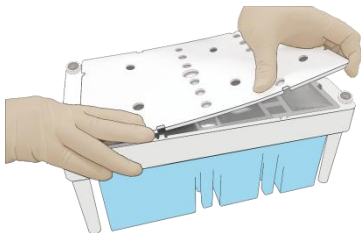
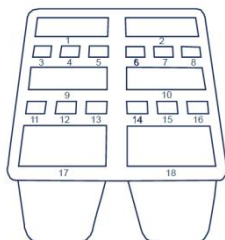

Figure 7-1: Open and clean the kit
Figure 7-2: Well position
Open the cartridge cover and wipe any water condensation with lint-free paper (see Figure 7-1). Well positions are shown in Figure 7-2.
- Pierce the seal at the edge of well No.1 and No.2 (see Figure 7-2) to make a hole around 2 cm in diameter using 1 mL sterile tip (see Figure 7-3):
- Pierce the seal at the edge of well No.1 and No.2 (see Figure 7-2) to make a hole around 2 cm in diameter using 1 mL sterile tip (see Figure 7-6):
- Pierce the seal at the edge of well No.1 and No.2 (see Figure 7-2) to make a hole around 2 cm in diameter using 1 mL sterile tip (see Figure 7-8):